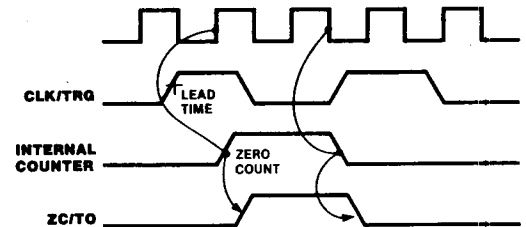

Figure 12. Counter Mode Timing
**Counter Operation.** In the counter mode, the CLK/TRG pulse input decrements the downcounter. The trigger is asynchronous, but the count is synchronized with CLK. For the decrement to occur on the next rising edge of CLK, the trigger edge must precede CLK by a minimum lead time as shown in Figure 12. If the lead time is less than specified, the count is delayed by one clock cycle. The trigger pulse must have a minimum width, and the trigger period must be at least twice the clock period. If the trigger repetition rate is faster than  $1/3$  the clock frequency, then  $T_{sCTR}(Cs)$ , AC Characteristics Specification 26, must be met.